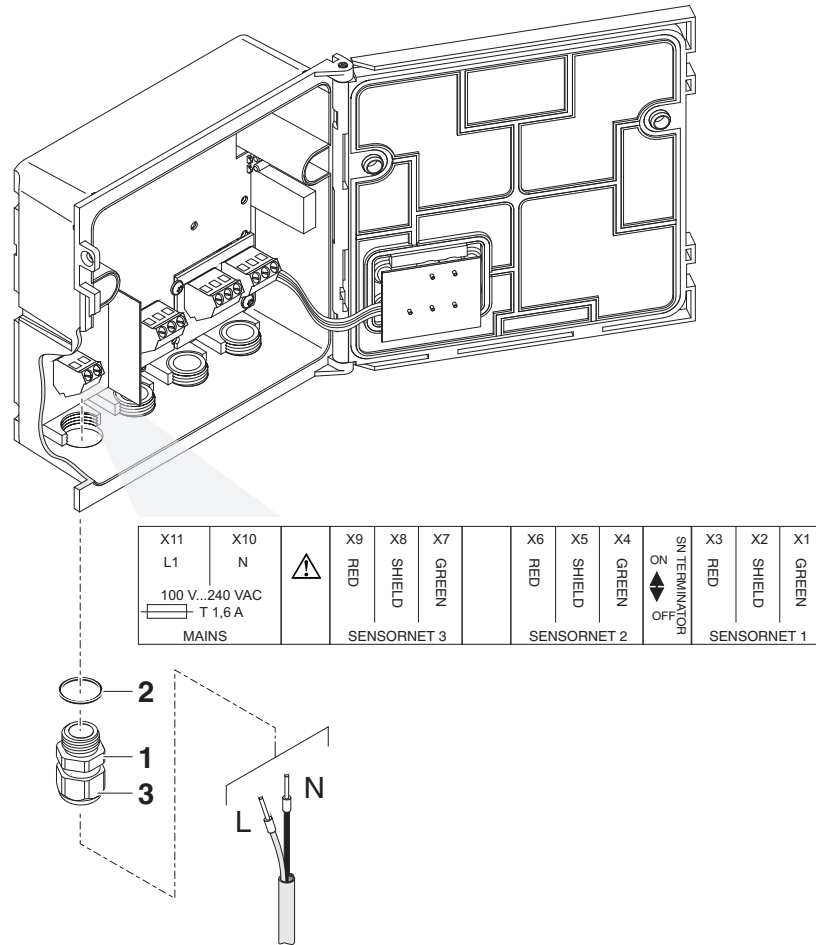

Fig. 3-2 Connecting the power line.
- 6 Screw the cable gland (pos. 1 in Fig. 3-2) with the sealing ring (pos. 2) into the module housing.
- 7 Loosen the coupling ring (pos. 3).
- 10 Tighten the coupling ring (pos. 3).